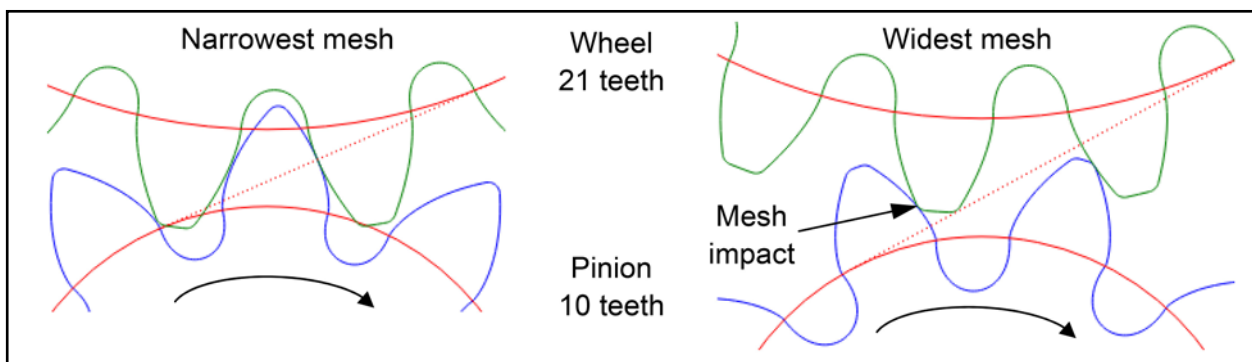
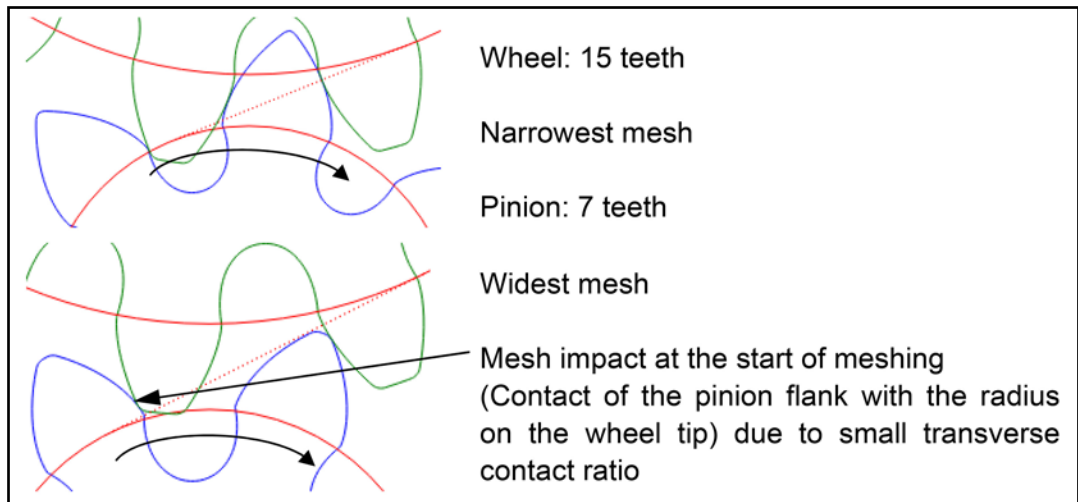
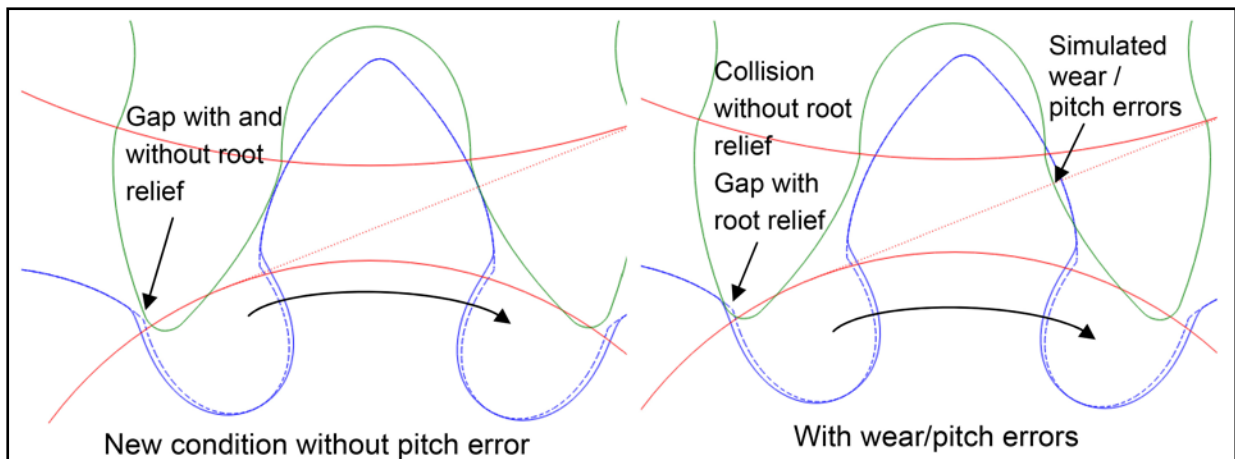

Figure 1 Conventional design, similar to DIN 58400 (Ref. 2).
Figure 3 Pinion number of teeth — 7; conventional design — basic rack: similar to DIN 58400 (Ref. 2).
Figure 7 Pinion without root relief (dotted line) and with root relief (solid line) with narrowest tolerance situation.
Figure 1 shows gear meshing according to a conventional design similar to DIN 58400 (Ref. 2), with tolerances typical of a microgear. According to conventional evaluation, the transverse contact ratio must be at least 1 over the tolerance range. For the widest mesh (Fig. 1, right) there is a transverse contact ratio of less than 0.6, with a correspondingly hard impact at the start of meshing. The results are noisy running and severe wear. Consequently a gearwheel design is required that ensures operating reliability — even with large tolerances.
**Step 1: specification of module and number of teeth.** Multiple calculations have shown that for the design optimized here, the optimum number of teeth-per-pinion is 7. Figure 3 shows a design similar to Figure 1, but with 7 teeth on the pinion.
Figure 7 clarifies how this measure prevents a collision before the desired meshing. However, a small part of the involute form is lost, which further reduces the calculated transverse contact ratio for the widest mesh. It is for this
Figure 8 Start of meshing via tolerances: conventional design (Fig. 3, top 3 image rows) and optimized design according to Figure 7 with root relief (bottom 3 image rows); pinion rotation angle between left and right image: 15°.
Conventional (Figure 3)	Optimized (Figure 7)